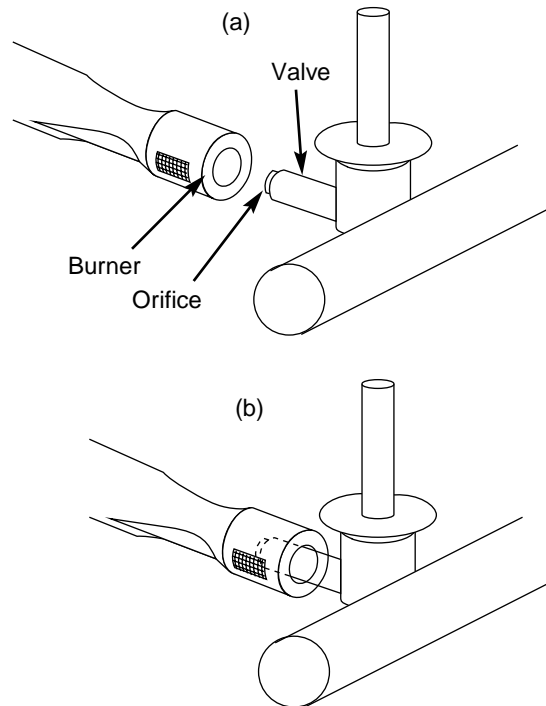

Figure 15
**⚠CAUTION: The burner openings must be positioned properly over the valve orifices. Figure 15(a).**
Check proper assembly before fastening manifold in place. Figure 15 (b).